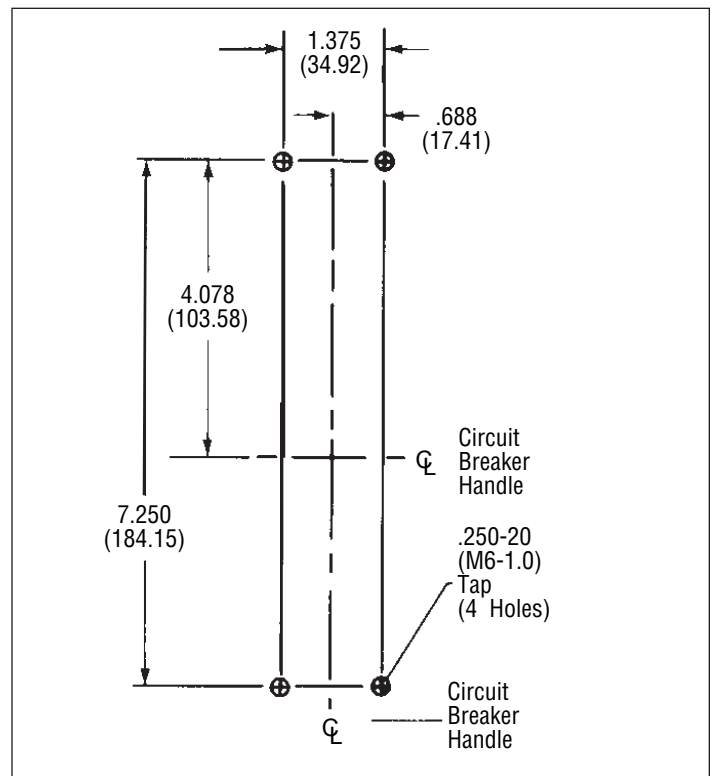
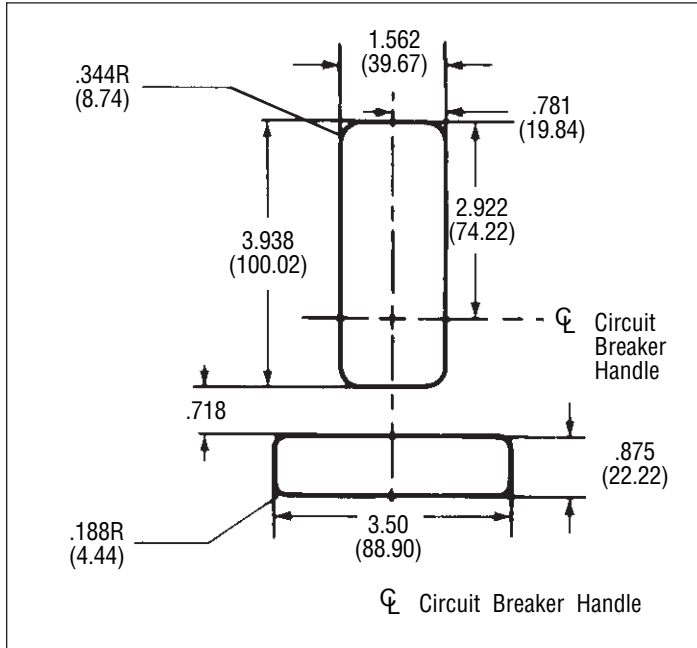

Figure 9. Circuit Breaker Mounting Bolt Drilling Plans.
Figure 10. Circuit Breaker Escutcheon Dimensions.
- a. For individual surface mounting, drill mounting panel using the drilling plan shown in (Fig. 9). For panelboard mounting, only load end support mounting holes are required. For dead front cover applications, cut out cover to correct escutcheon dimensions (Fig. 10).